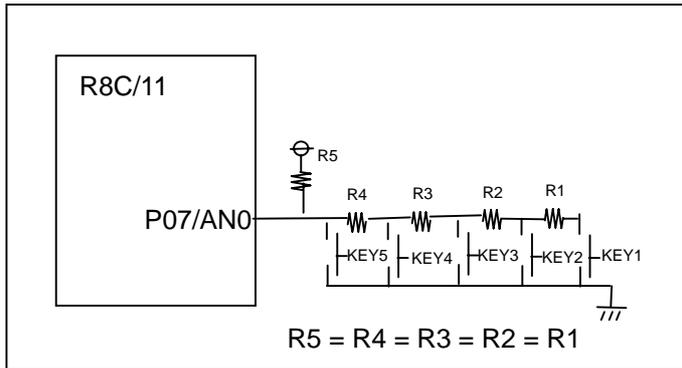

Figure 1. Key Input
- (1) The P07/AN0 pin is used for analog input. The circuit is configured by connecting multiple keys and resistors as shown in Figure 1, so that the voltage applied to the P07/AN0 pin will vary with each depressed key.
- (2) Following settings are selected: A/D operation mode = one-shot mode, ϕ AD frequency = divided-by-2 of fAD, and A/D resolution = 10 bits.
- (3) The A/D conversion results are sampled every 5 ms. The timer X is used to measure 5 ms. The valid conversion result is determined from the sum total of 10 conversion results obtained (variable ad_sum) by averaging eight of the conversion results, with the maximum value (variable ad_max) and minimum value (variable ad_min) excluded. Therefore, the valid A/D value is determined (variable flag.bit.b_ad_fix) every 50 ms.
- (4) When the valid A/D value is determined, the variable ad_fix is inspected to identify which key has been pressed. Key codes are determined to be valid when they match twice. The valid key code determined last (last_ad_key) and the valid key code determined this time are compared. If they match, the key code is set in ad_key_code. Table 1 lists the values used for key determination and the key codes.